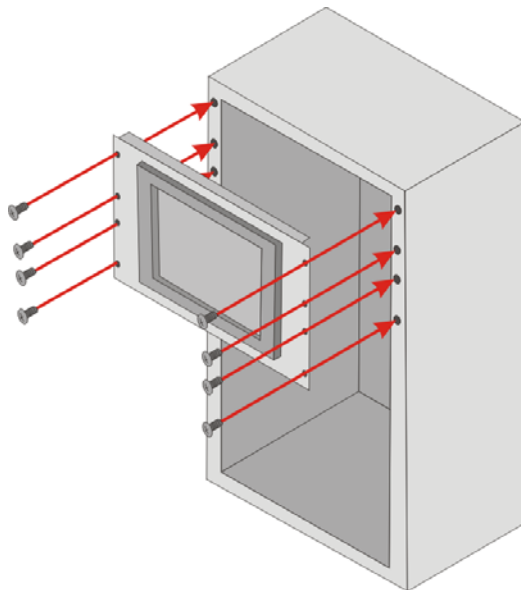

Figure 3-22: Install into a Rack/Cabinet
**Step 5:** Slide the PPC-F08B/F10B-BT with the attached rack/cabinet bracket into a rack or cabinet (**Figure 3-22**).
**Step 6:** Once the flat panel PC with the attached rack/cabinet bracket has been properly inserted into the rack or cabinet, secure the front of the rack/cabinet bracket to the front of the rack or cabinet (**Figure 3-22**).